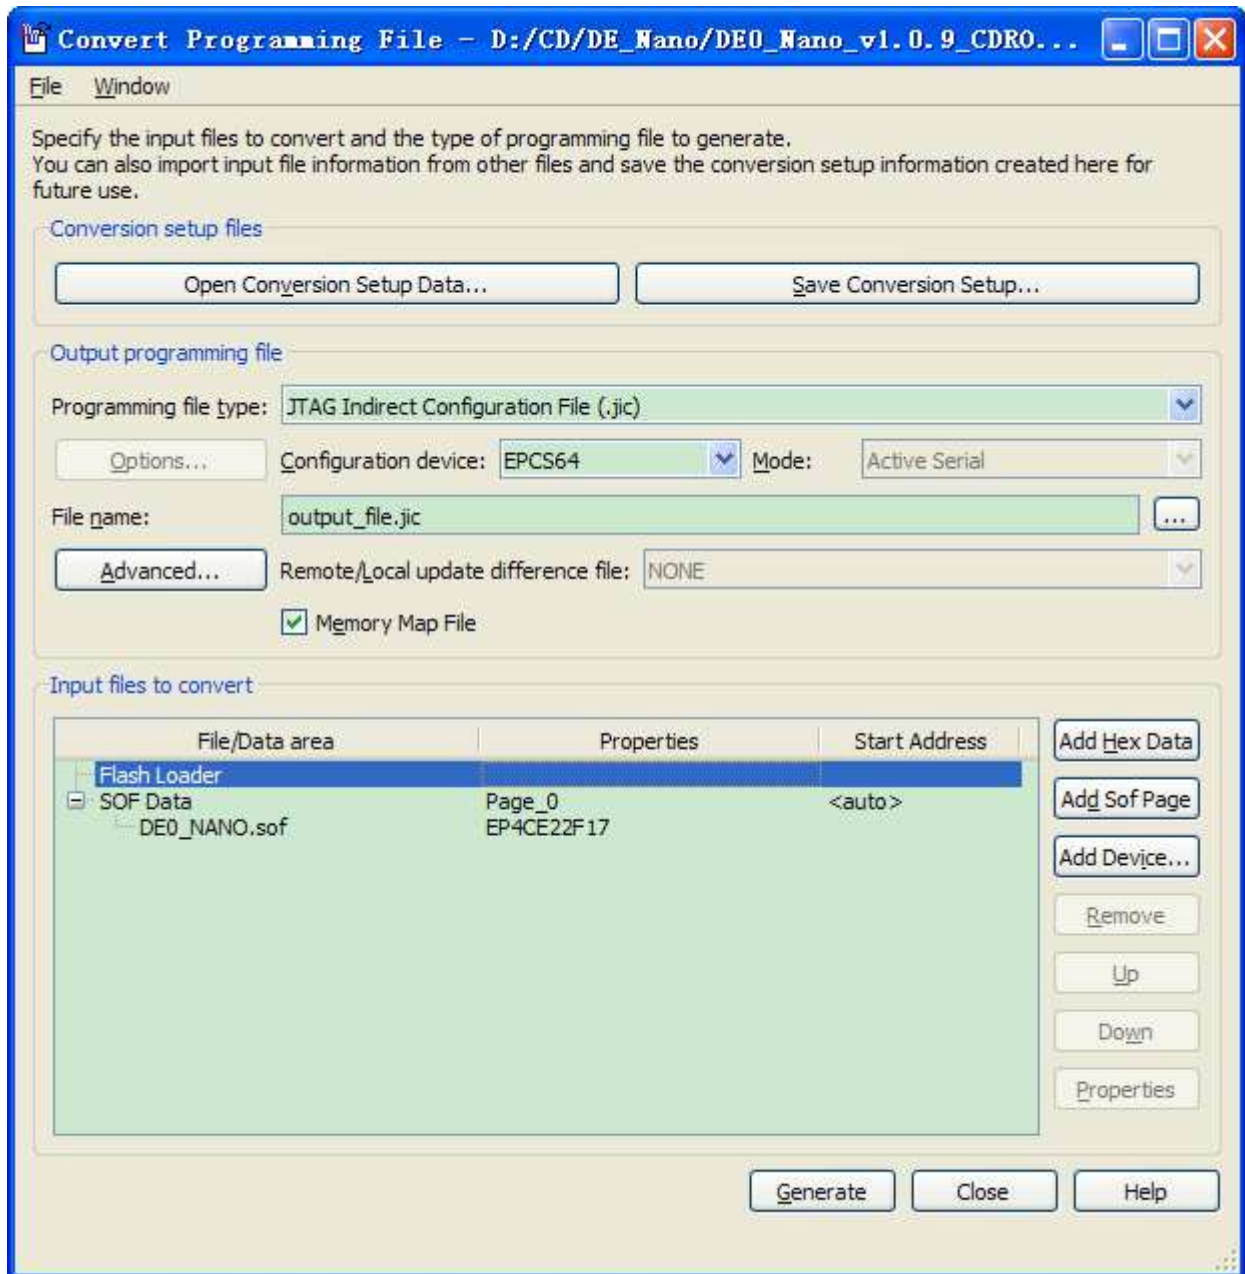

Figure 9-2 Highlight Flash Loader
9. Highlight the Flash Loader and click **Add Device**, as shown in Figure 9-2.